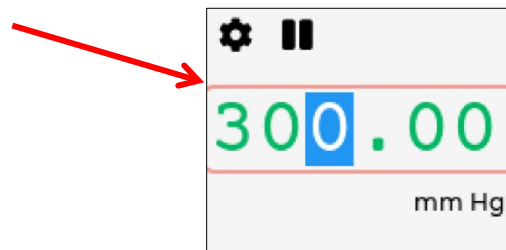

Figure 7: Set Point Adjustment Selection
1. For small adjustments of setpoint, rotate the knob to put the highlighting red box around the indicated pressure; see *Figure 7*.